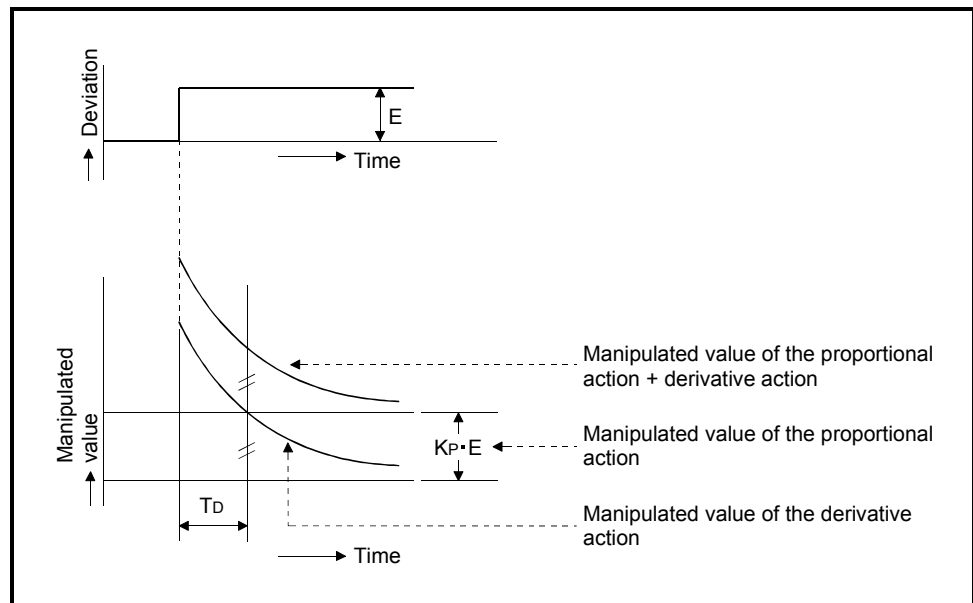

Fig. 1.9 Derivative action for step response
- (2) In the derivative action, the time from the deviation occurrence until the manipulation value of the derivative action becomes that of the proportional action is called the derivative time, and is indicated by T_D .
- (3) The derivative action for the step response when the deviation is constant is shown in Figure 1.9.
- (4) The derivative action is used as a PD action in combination with the proportional action, or PID action in combination with the proportional and integral actions.